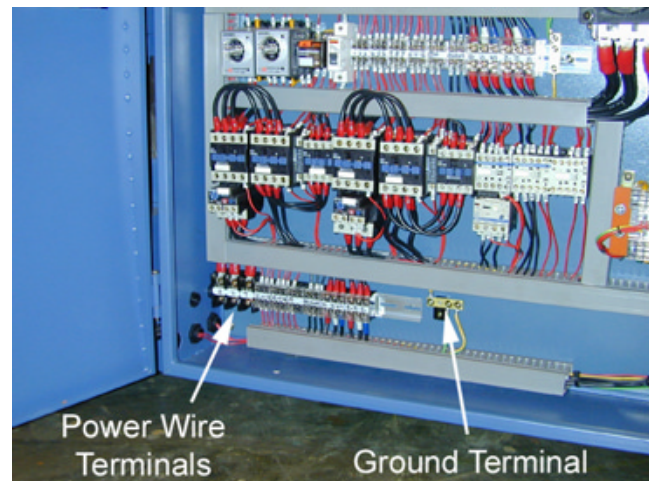

Figure 8
3. Connect the 3 power wires at the *terminal block* shown in **Figure 8**. The ground wire must be connected at the *grounding terminal block* shown in **Figure 8**.